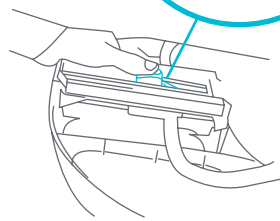

Fig. 1b
- **To adjust the height:** Twist the lever, slide it vertically while simultaneously pushing the lever up to adjust (Fig. 1b).